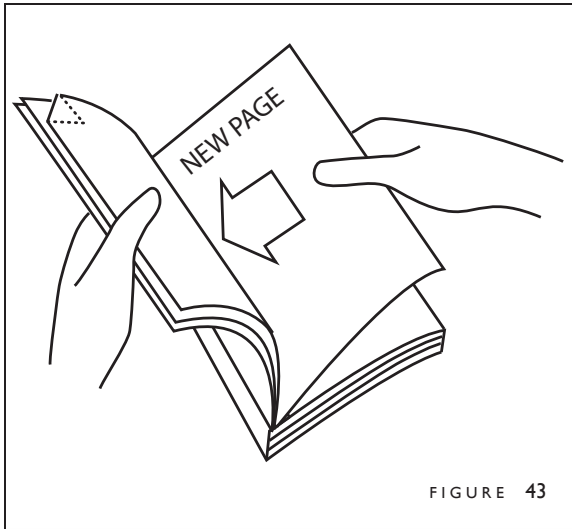

FIGURE 43
3. Behind this page insert the new page you want to add (figure 43). Slip it in as far as you can. When you're sure it's straight, close your document.